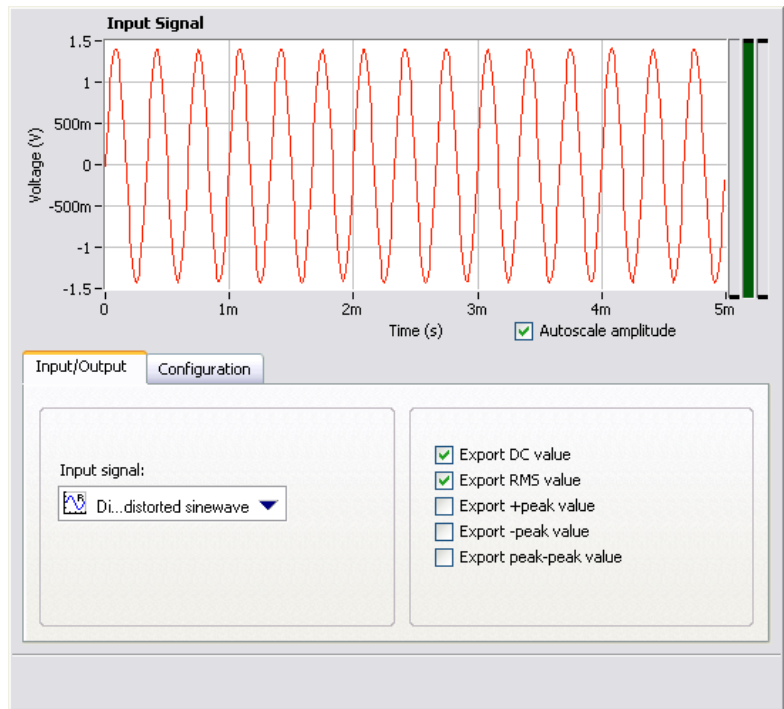

Figure 4-4. Amplitude and Levels Step Setup Tab
6. Select the **Input/Output** page to display the list of possible inputs and outputs for this step, as shown in Figure 4-4.